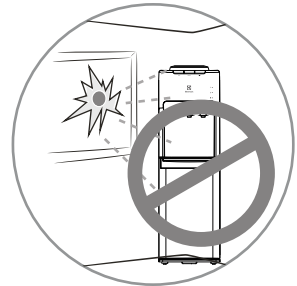

Fig. 4
10. Keep the unit in a dry place and away from direct sunlight. Do not place the machine on paper or foam. Do not place anything flammable beside this machine.(Fig. 4)